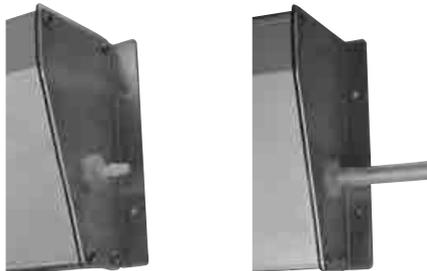

Figure 2.4 Connecting polybraid hose to Hydroxzone
- 2.4.2. Connect the polybraid hose to the barb on the side of the Hydroxzone (see Figure 2.4).